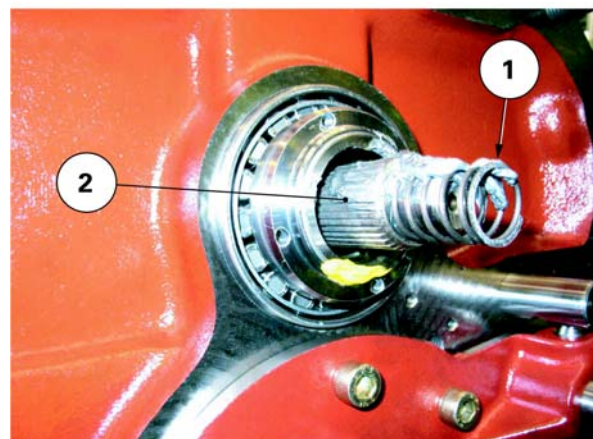

Fig. 12
68. Smear the spring (1) with miscible grease and fit it on the shaft collar (2) (Fig. 12).